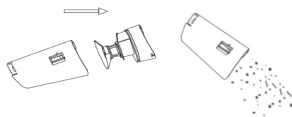

Fig.11
2. Pull out the filter in the direction of arrow shown in the figure, then dust cup can be emptied. (Fig. 11)